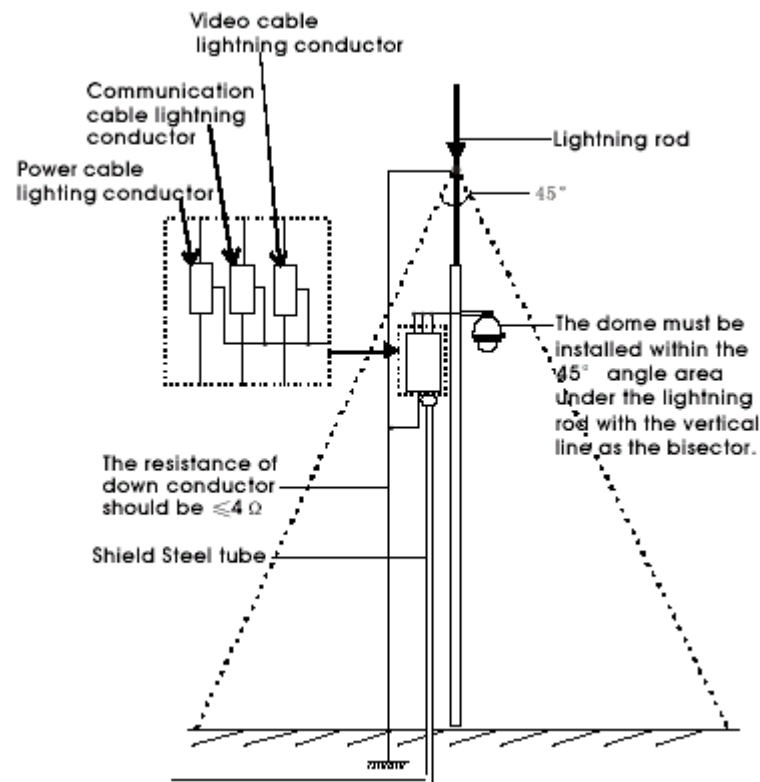

Figure 36
- I The system must be grounded with equal potentials. The earth ground connection must satisfy anti-interference and electrical safety requirements and must not short circuit the high voltage electricity network. When the system is grounded separately, the resistance of the down conductor should be $\leq 4 \Omega$ and the sectional size of the down conductor should be $\leq 25\text{mm}^2$ (refer to Fig 36).